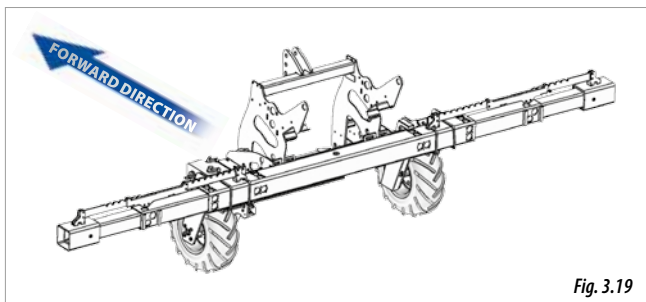

Fig. 3.19
- Simple telescopic hybrid (Fig. 3.19)